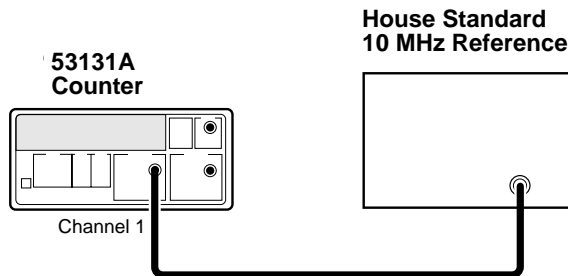

Figure 2-4. Standard Timebase Calibration Setup
- 1 Connect the output of a 10 MHz house standard to Channel 1 of the Counter as shown in Figure 2-4.